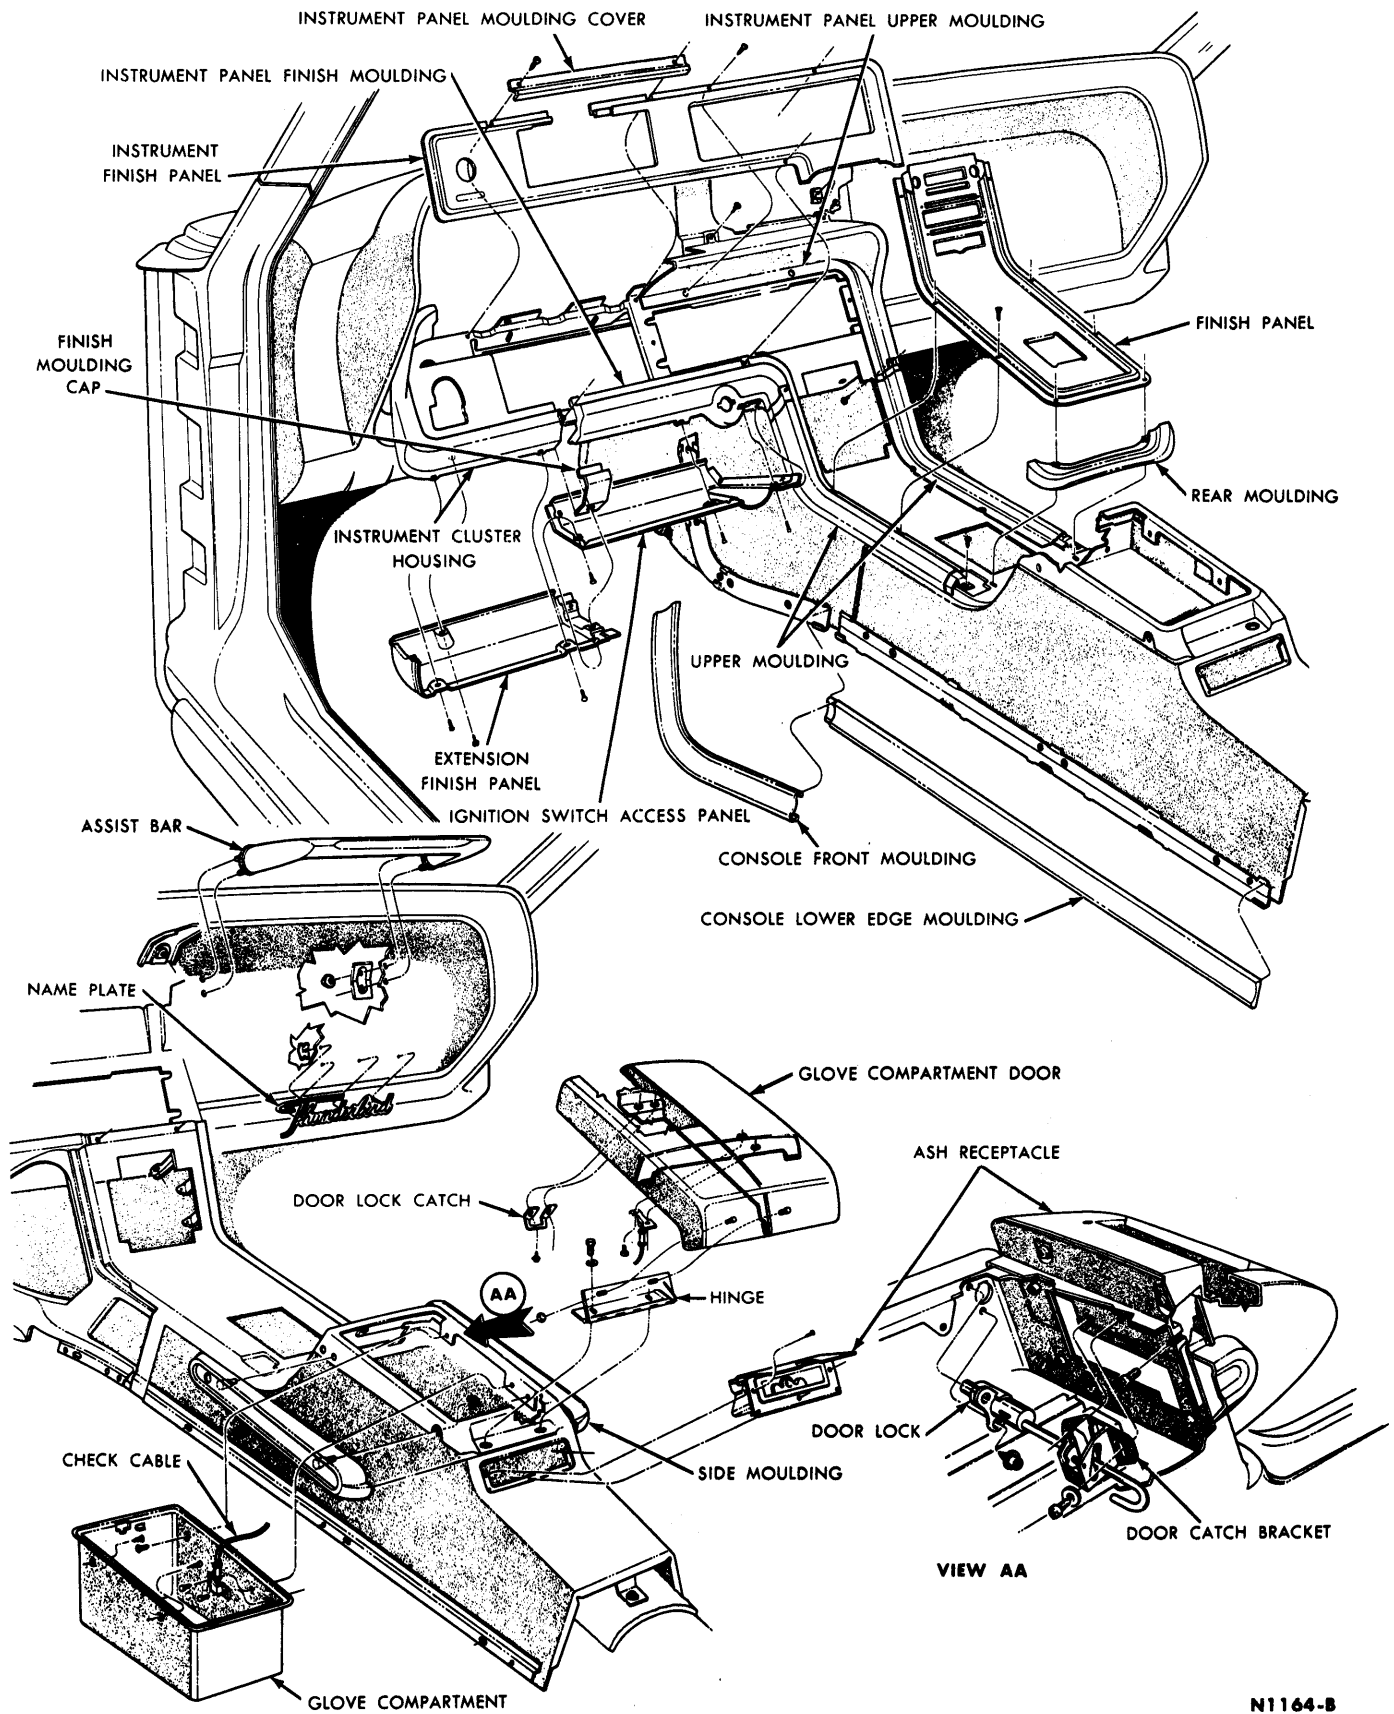

FIG. 6—Console and Finish Mouldings
14. Remove the six instrument finish panel retaining screws and remove the instrument finish panel (Fig. 6).
screws and remove the left instrument panel extension (Fig. 6).